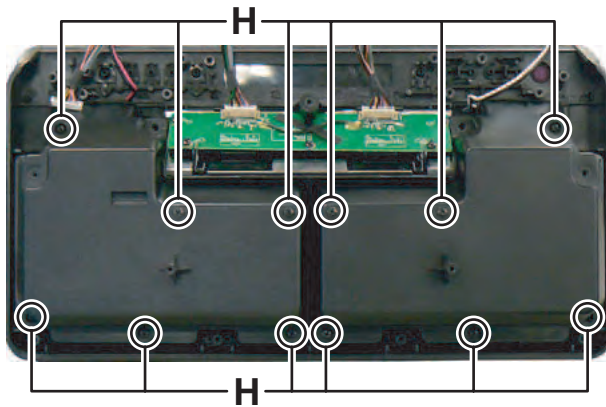

Fig.9
### 3.1.7 Removing the iPod board (See Fig.9 to 12)
- (1) Remove the twelve screws **H** attaching the Speaker covers. (See Fig.9)